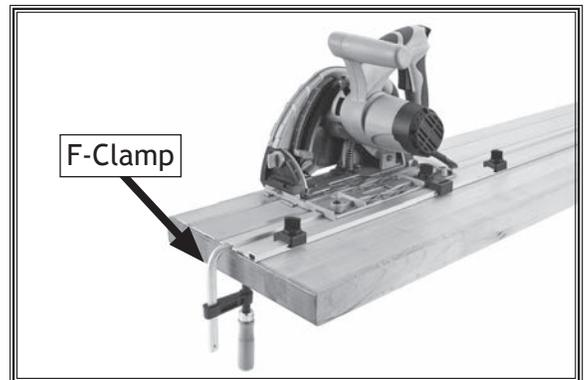

Figure 21. Saw and rail track positioned on workpiece.
2. When satisfied with the position of the rail track, use the F-clamps to secure it to the workpiece, as shown in **Figure 21**.